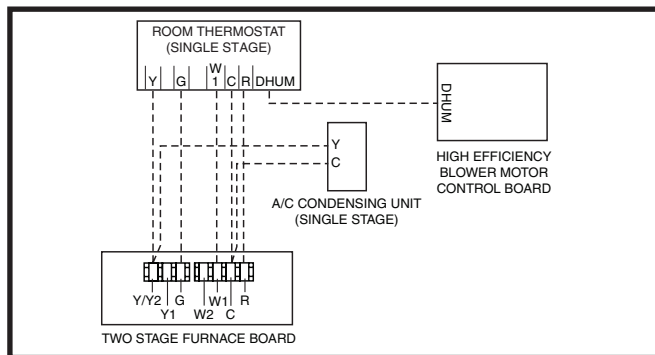
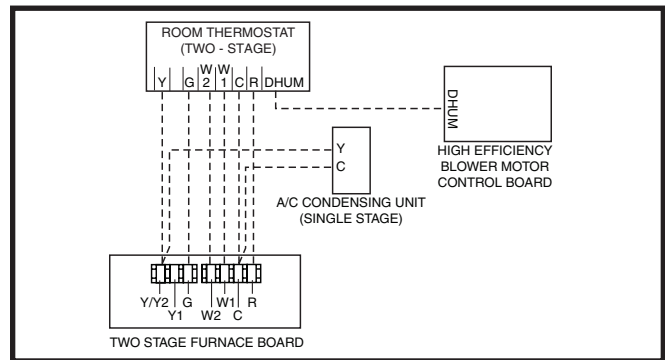
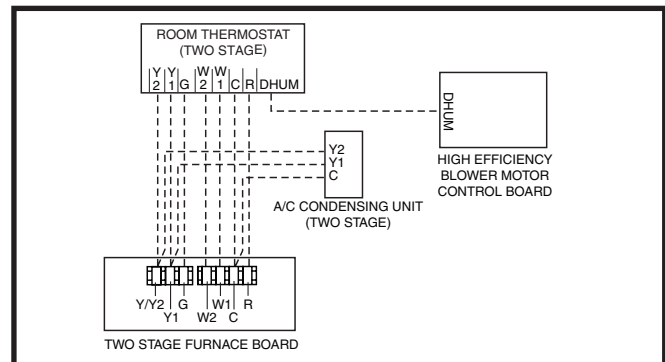

Figure 15. Wiring Configuration 1
Figure 16. Wiring Configuration 2
Figure 17. Wiring Configuration 3
- **Connect the thermostat's W output to the furnace control boards W1 terminal. This allows the furnace to always run in low output mode. See Figure 15.**
This option uses the full two-stage heating capability of the furnace with a single stage outdoor unit. See Figure 16.
This option uses the full two-stage heating capability of the furnace with a two-stage outdoor unit. See Figure 17.
The Autostaging feature included make it possible to use a single stage thermostat and still receive some of the benefits of 2-stage furnace operation. If Autostage is enabled, the furnace will drop to **LOW** fire after initially starting in **HIGH** fire. After a period of 10 minutes, the furnace will then stage up to **HIGH** fire, until the heating load is met. See Figure 15 and the Thermostat / Low Voltage Connection section.
- ✓ Verify that all needed thermostat wires are securely connected to the correct leads on the terminal strip of the circuit board. See Figure 15 \(page 20\), Figure 16 \(page 20\), & Figure 17 \(page 20\).
The operating sequences for the heating, cooling, and fan modes are described below. Refer to the field and furnace wiring diagrams: Figure 14 \(page 19\), Figure 15 \(page 20\), Figure 16 \(page 20\), Figure 17 \(page 20\), Figure 25 \(page 29\) and Figure 26 \(page 30\).